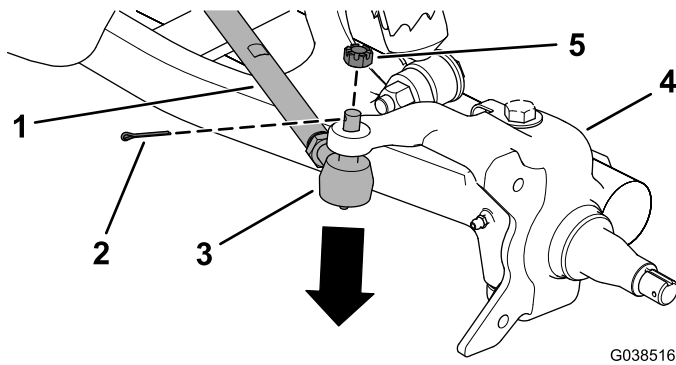

**Figure 7**
- Remove the 4 hex-socket bolts (5/16 x 3/4 inch), and remove the rotor from the hub (Figure 7).
6. Install the rotor to the hub using 4 hex-socket bolts (5/16 x 3/4 inch) as shown in Figure 7.